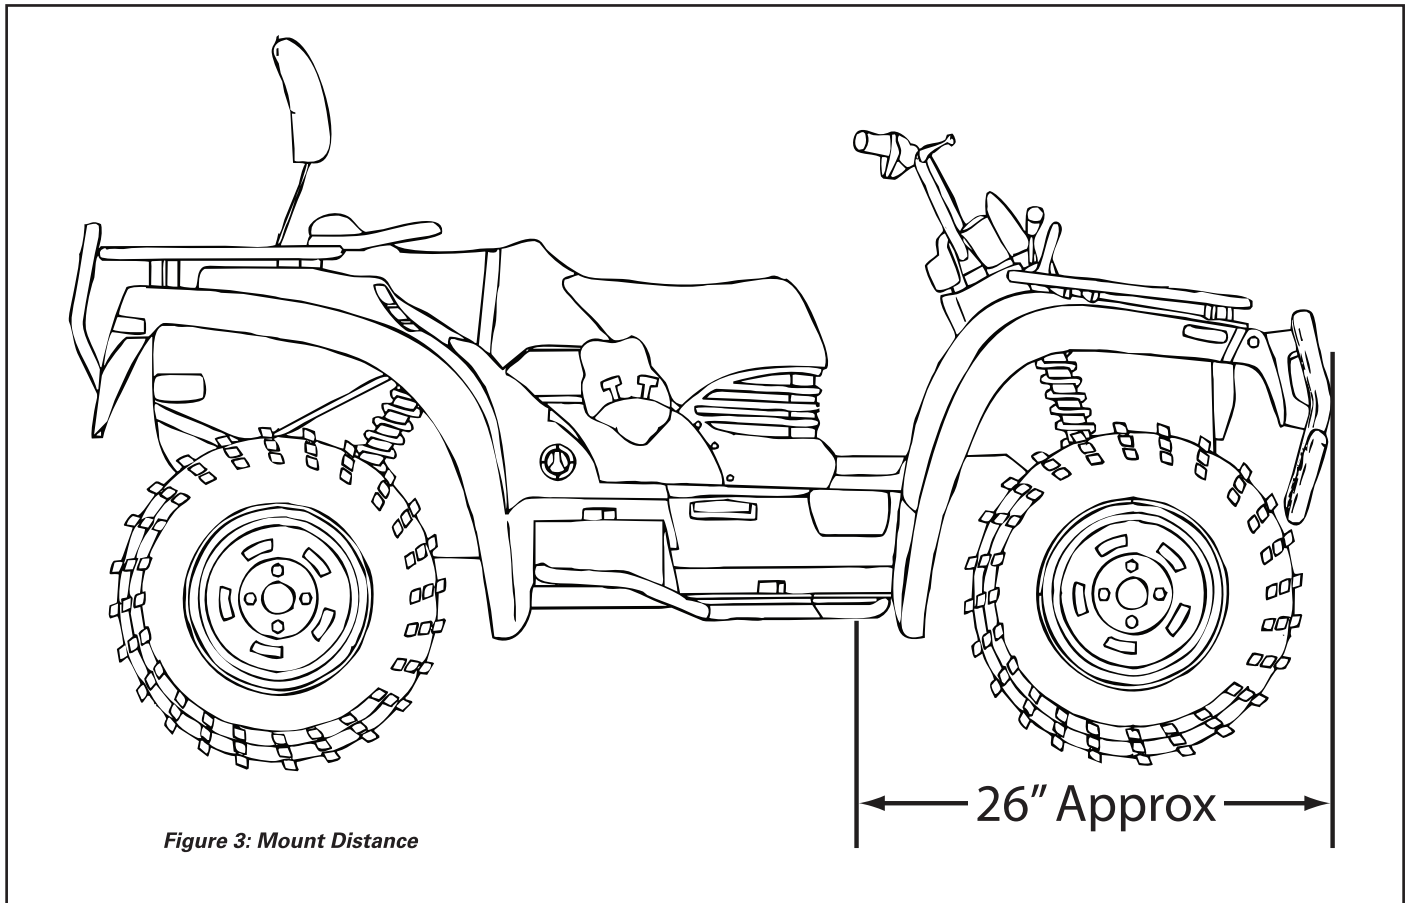
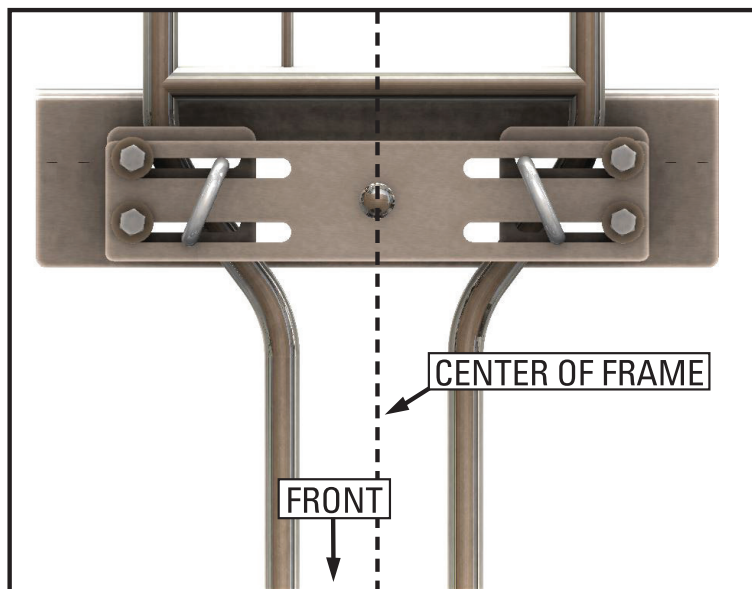

Figure 3: Mount Distance
Figure 4: Placement for Round Tube Installation (Top View)
- 2) Tab holes can be located approximately 26" (See Figure 3). Every machine can vary because of ATV front contour.
- 1) Determine mount location. Find the place on the ATV frame behind the front tires where the frame widens. (Fig. 4) Lower Mount Plate (1) should be centered and as far back on the frame as possible with room remaining to attach the push tubes. Mount holes should be approximately 26" from the front of the ATV. (See page 5, Fig. 3 and page 5, Instruction 2.)
- 1) Measure the thickness of your tube frame. If a skid plate is installed, measure the combined thickness of the tube frame and skid plate. Cut the rubber spacers (4) to $\frac{1}{4}$ " longer than the thickness of the installation surface.
- 2) Determine mount location. Find the place on the ATV frame behind the front tires where the frame widens. The mount should be centered and as far back on the frame as possible with room remaining to attach the push tubes. Mount holes should be approximately 26" from the front of the ATV. (See page 5, fig. 3 and page 5, Instruction 2.)
- 3) Loosely install the upper mount plate (2) and lower mount plate (1) using the rubber spacers (4), 3/8" bolts (9), 3/8 carriage bolt (10), nuts (7) and washers (8).
- 4) Determine mount location. Find the place on the ATV frame behind the front tires where the frame widens. The mount should be centered and as far back on the frame as possible with room remaining to attach the push tubes. Mount holes should be approximately 26" from the front of the ATV. (See page 5, fig. 3 and page 5, Instruction 2.)
- 2) Trous d'onglets peuvent être situés à environ 26" (Voir Figure 3). Chaque machine peut varier en raison de l'ATV avant contour.
- 1) Déterminer l'emplacement de montage. Trouver l'endroit sur le cadre de VTT derrière les pneus avant où le cadre se creuse. (Fig. 4) Lower Mount Plate (1) doit être centrée et aussi loin sur le châssis que possible avec la pièce restante pour fixer les tubes poussoirs. Trous de montage doivent être d'environ 26 "à l'avant de l'ATV. (Voir page 5, fig. 3 et à la page 5, l'instruction 2.)